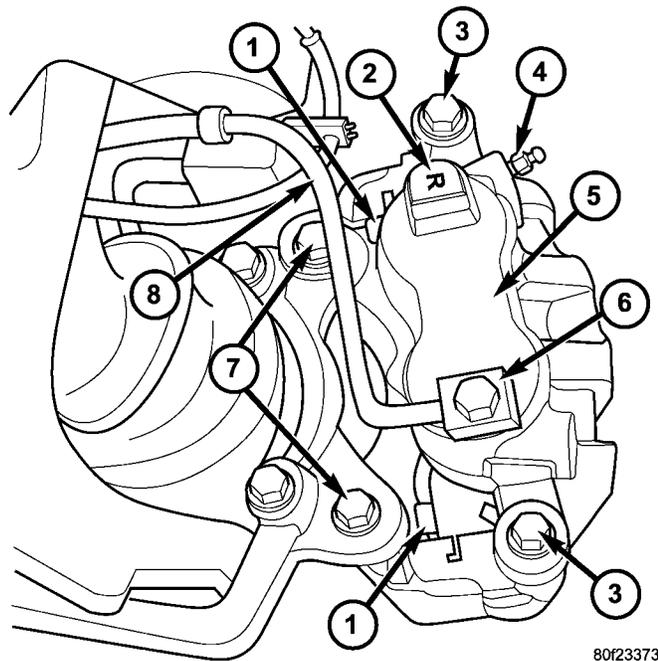

Fig. 3 NEW CALIPER INSTALLED
18. Tighten the attaching banjo bolt to 31 Nm (23 ft. lbs.) (Fig. 3).